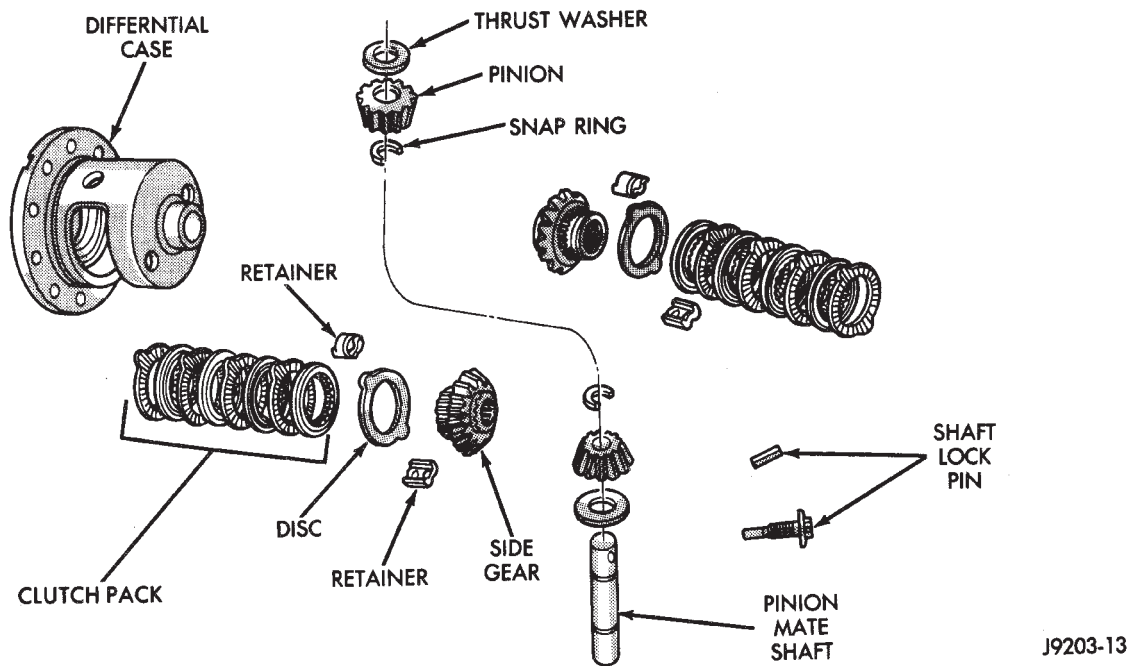

Fig. 2 Trac-Lok Differential Components
The **Trac-Lok** (limited-slip) differential components are illustrated in (Fig. 2). Refer to this illustration during repair service.
- (1) Clean all components (Fig. 2) in cleaning solvent. Dry components with compressed air.
- (2) Inspect clutch pack plates for wear, scoring or damage. Replace both clutch packs if any one component in either pack is damaged.
- (3) Inspect side and pinion gears. Replace any gear that is worn, cracked, chipped or damaged.
- (4) Inspect differential case and pinion shaft. Replace if worn or damaged.